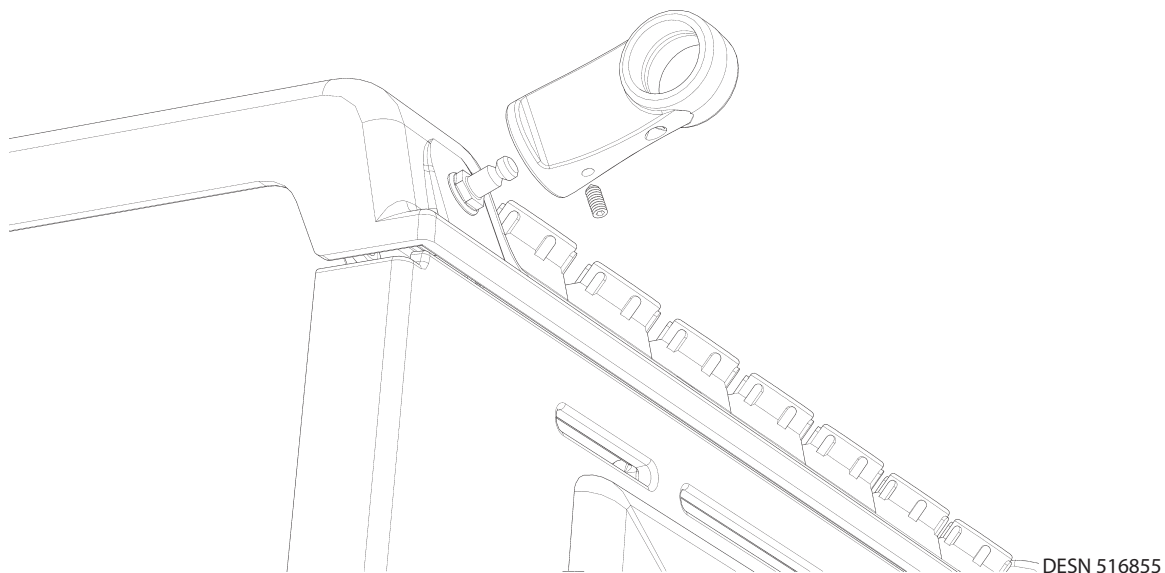

Fig. 10.10
9. Fit the Module handrail bracket over the fixing stud located on the top plate. Lock into position by tightening the grub screw nearest the appliance (**Fig. 10.10**).